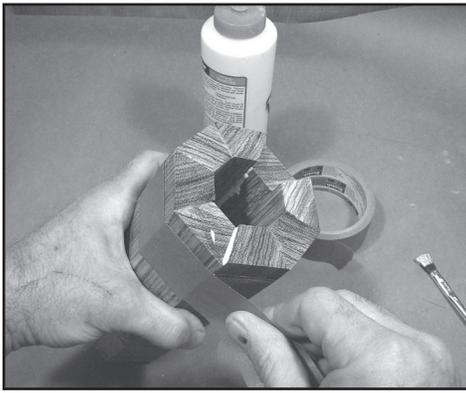

Fig. 7
5. Once the joints close, glue the two half-sections together. **Fig. 7.**